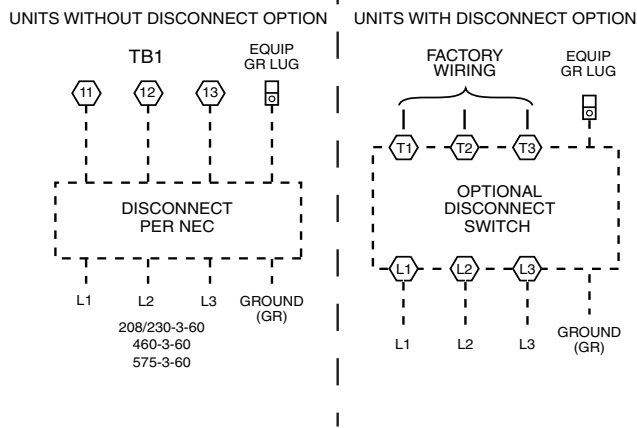

Fig. 36 — Power Wiring Connections
Size wire based on MCA (Minimum Circuit Amps) on the unit informative plate. See Fig. 36 for power wiring connections to the unit power terminal block and equipment ground. Maximum wire size is 2/0 AWG per pole.
3. Install power lines to terminal connections as shown in Fig. 36.